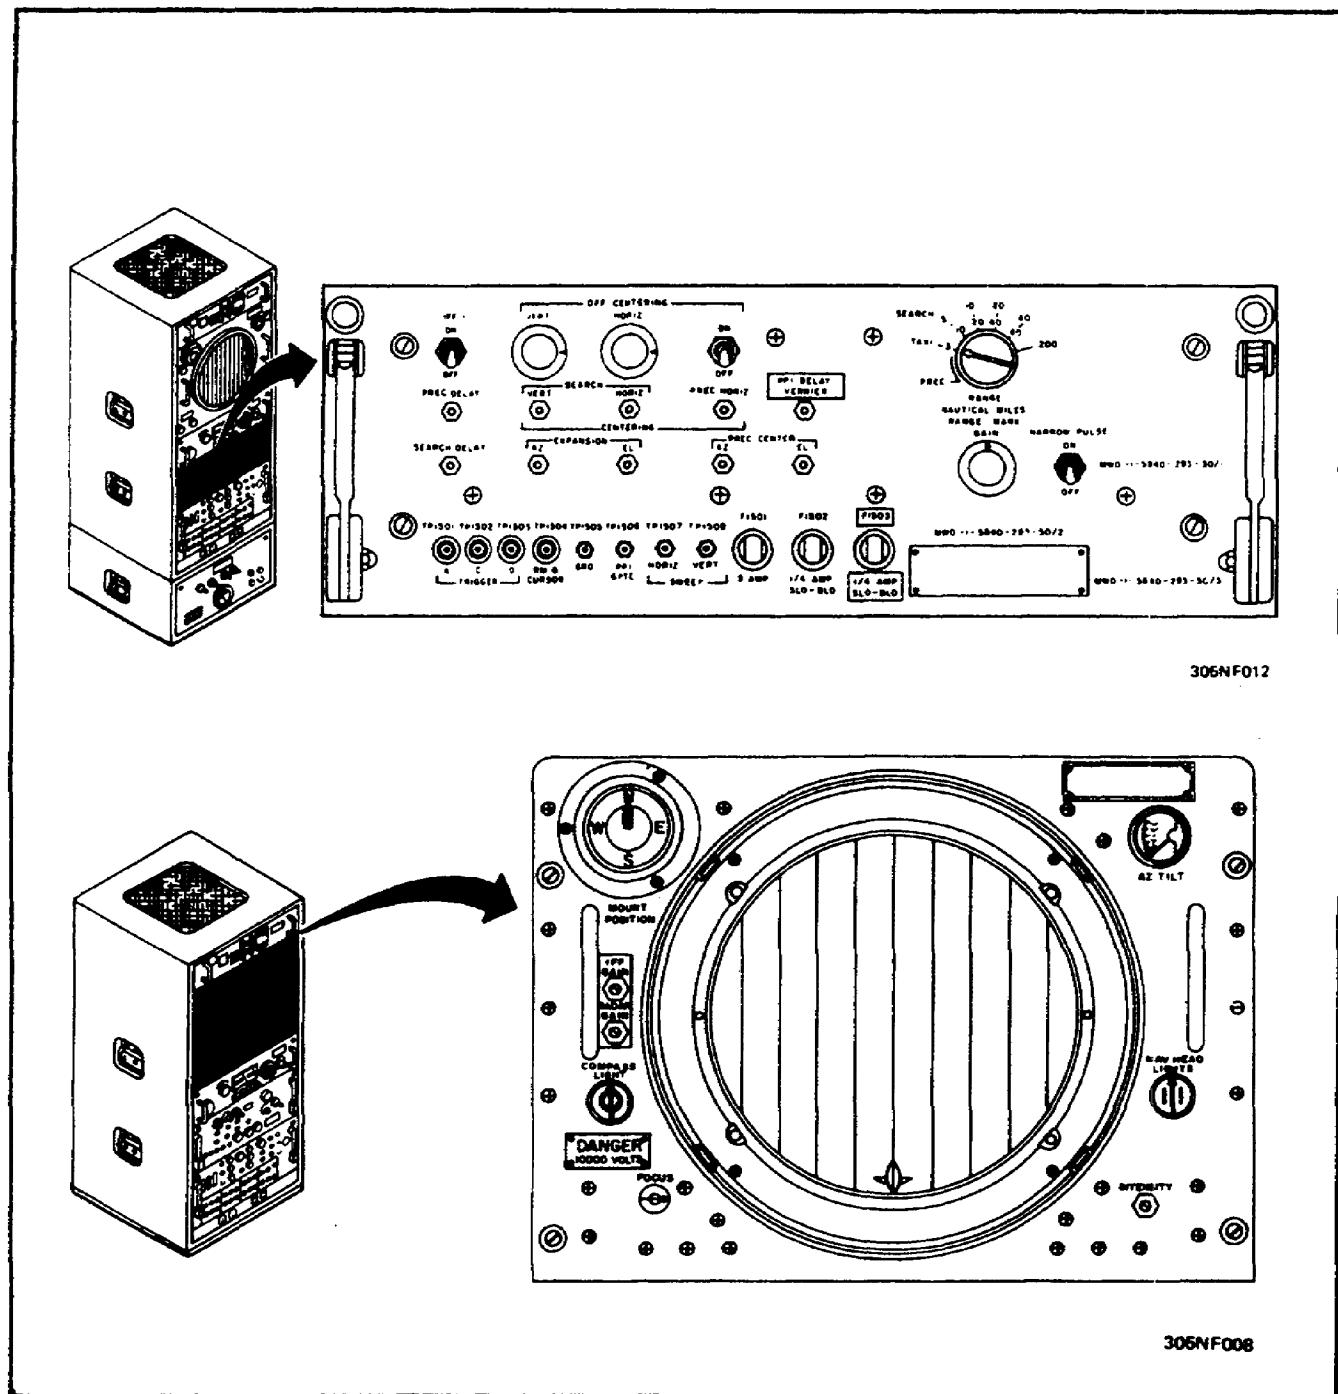

Figure 13. Synchronizer-generator, electronic marker SN-386/FPN-40 and range indicator.
d. Rotate range mark gain control R-1512 clockwise until range marks are visible on CRT. (See Figure 13.)